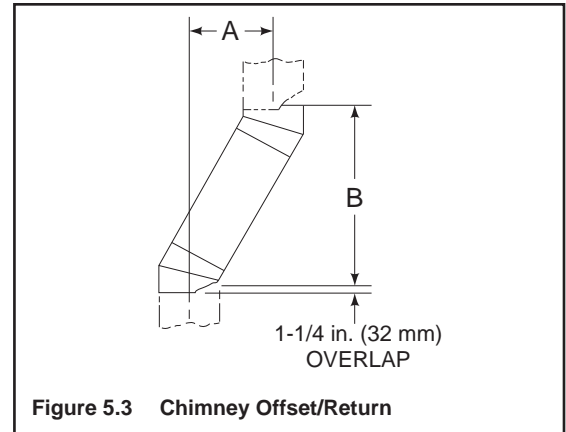

Figure 5.3 Chimney Offset/Return
- Measure how far the chimney needs to be shifted to enable it to avoid the overhead obstacle. See Figure 5.3. Use dimension “A” to determine chimney section required to achieve the needed shift.
Example: Your “A” dimension from Figure 5.3 is 14 1/2 in. (368 mm). Using Table 5.2 the dimension closest to, but not less than 14 1/2 in. (368 mm) is 15 3/4 in. (400 mm) using a 30° offset/return. It is then determined from the table that you would need 36 5/8 in. (930 mm) (Dimension “B”) between the offset and return. The chimney components that best fit your application are two SL1112s.